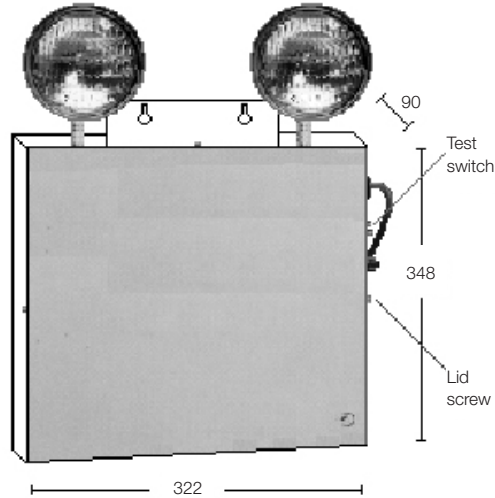
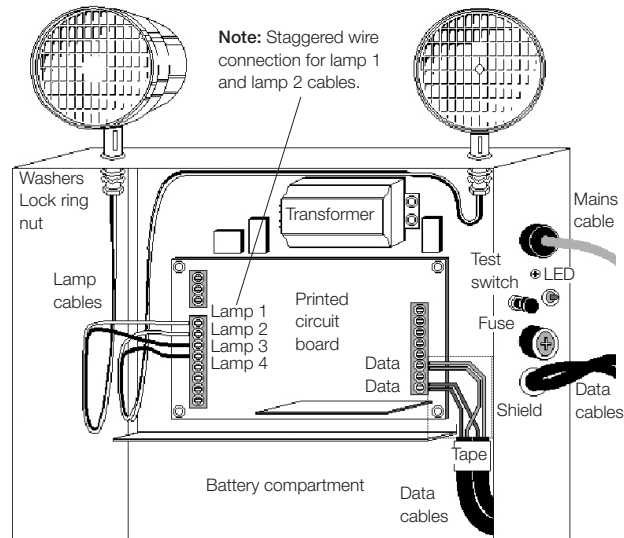

Figure 1: Flood light Nexus with beams installed
Figure 2: Flood light Nexus lamp/beams and data cable connection diagram
4. Remove the lid by unscrewing 4 screws as shown in figure 1. Install both the beams using washer and lock ring nut (refer to figure 2).
Connect the beam/lamp cables as shown in figure 2 using a suitably sized screwdriver. Ensure that the stripped wire ends are completely inserted into the terminal block and no bare conductors are exposed to the metal.
Note: The lamp cables are in staggered pattern as shown in figure 2.
Connect the data cable as shown in figure 2 using suitably sized screwdriver. Ensure that the data cable/s are completely inserted into the terminal block and properly secured with tape.
2. Remove the lid by unscrewing four screws as shown in figure 1.